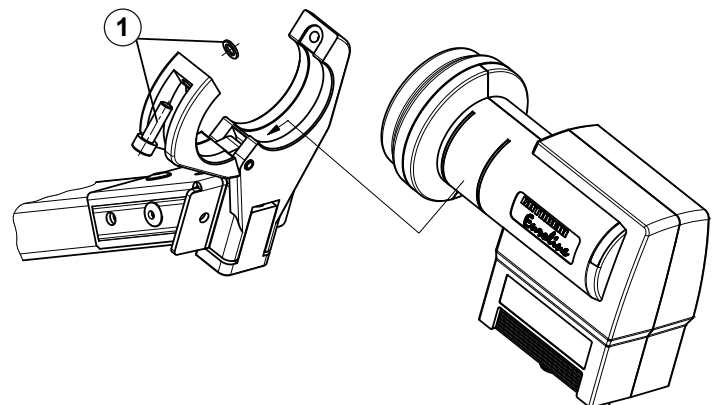

Fig. 5: Installing the feed system support
1. Loosen the M5 screw (① in Fig. 5).